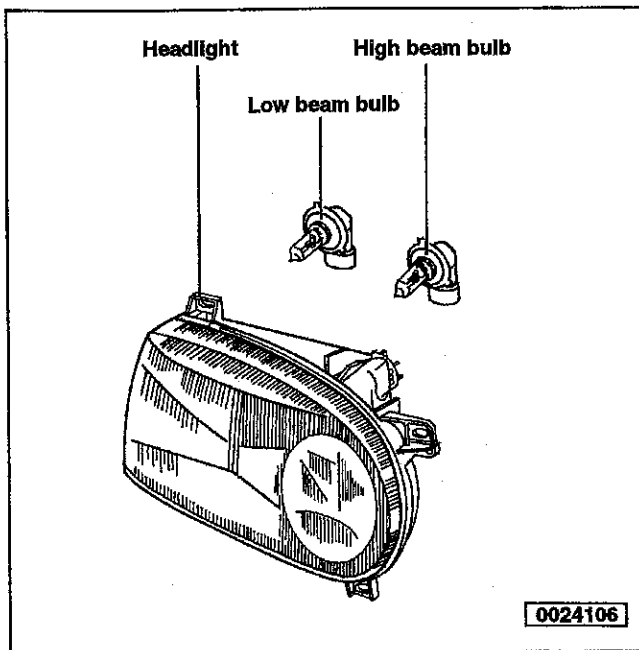

Fig. 2. Headlight assembly for two bulb system.
2. Twist bulb counter-clockwise approx. 1/8 turn and remove from headlight housing. See Fig. 2.